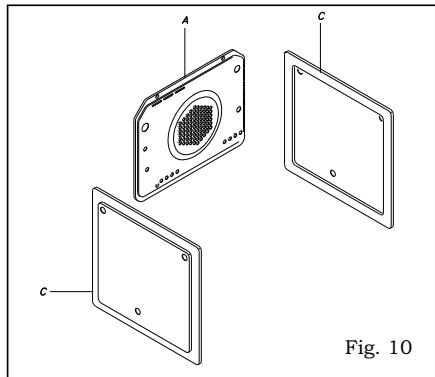

Fig. 10
- Fig. 10
- 1) Fix the wall (A) with four auto-tapping screws.
- 2) Lean the walls (C) against the side of the oven and refasten the guides which were earlier taken away.